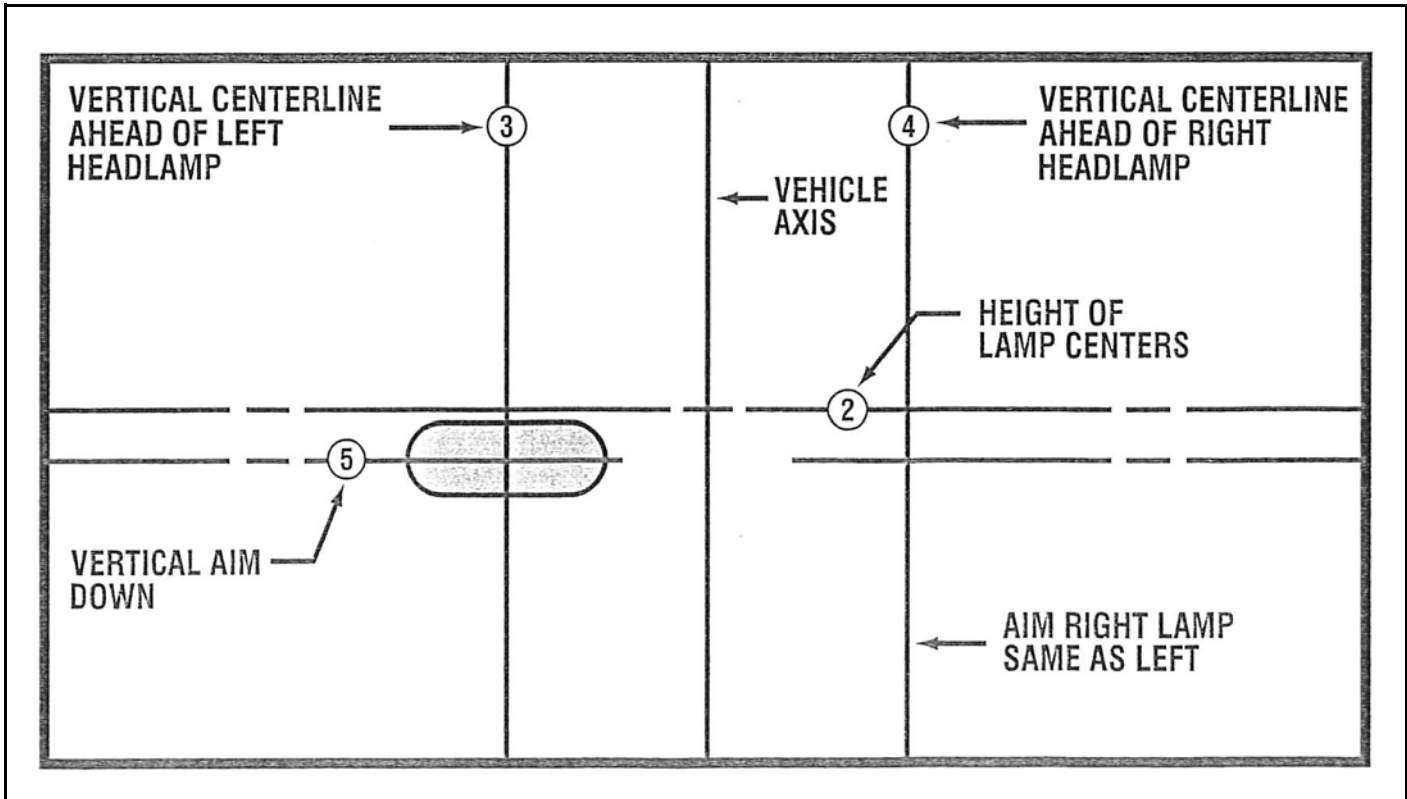

Figure 2-7 High-Intensity Zone (Shaded Area of a Properly Aimed Upper Beam on the Aiming Screen 25 ft (7.6 m) in Front of Vehicle)
1. Activate the snow plow lamp HIGH beams so that they illuminate toward the wall. (See Figure 2-7)